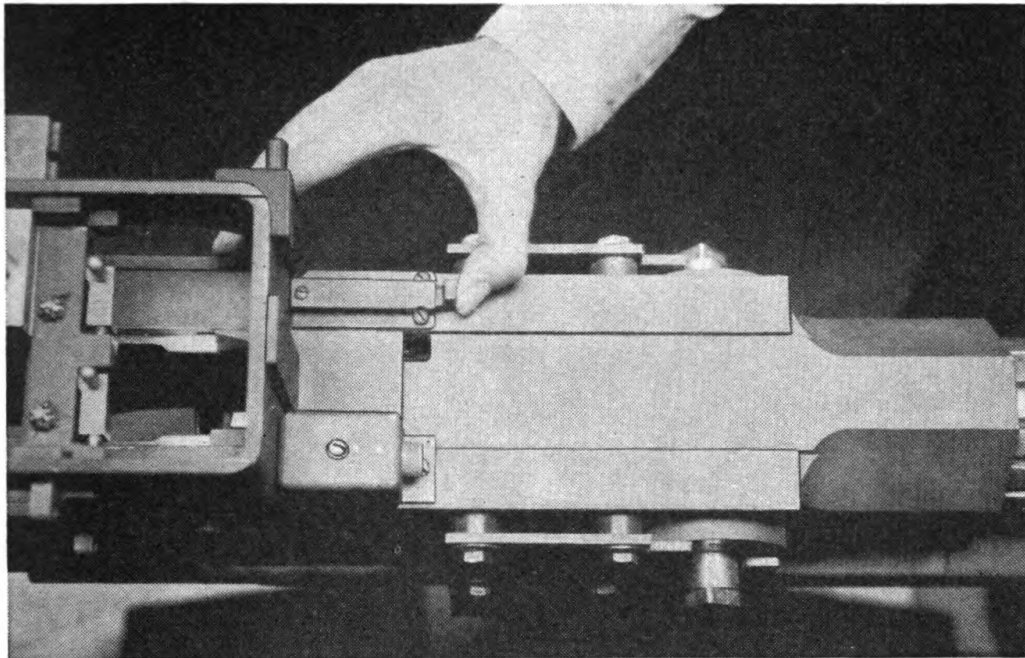

FIGURE 14.—Depressing tube lock depressor.
(3) Keeping the tube lock depressor pushed to the rear (fig. 14), unscrew the tube counterclockwise five turns.